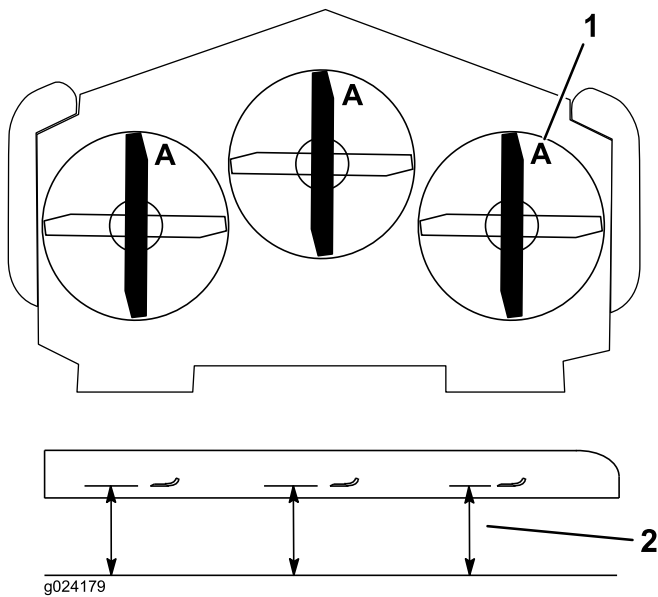

Figure 88
3. Rotate the blades until the ends face forward and backward (Figure 88). Measure from a level surface to the cutting edge, position A, of the blades (Figure 88). Note this dimension.